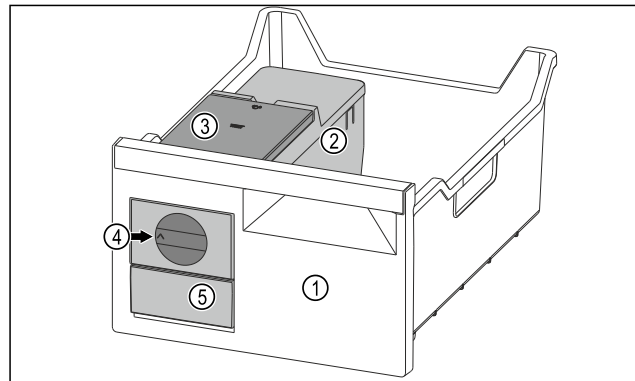

Fig. 102 Example illustration
- ▶ Turn the rotary knob Fig. 102 (4) clockwise as far as it will go.
- ▶ Ice cubes fall from the ice cube tray into the ice cube drawer Fig. 102 (5).